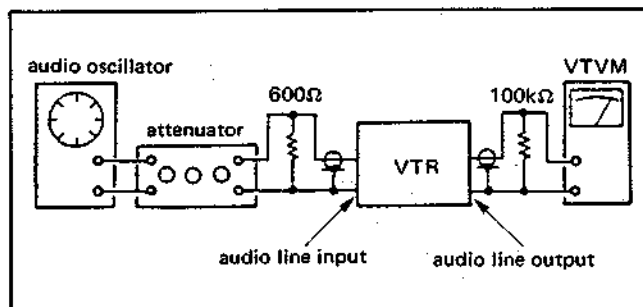

Fig. 3-25 Connections
The connections of the equipment to the input/output terminals are shown in Fig. 3-25.
- (1) Terminate the audio line output terminal with a 100kΩ resistor and connect a VTVM.
- (2) Play back the 5kHz signal segment of the alignment tape (KR5-1M).
- (3) Adjust the azimuth adjustment screw on the audio head for a maximum VTVM reading. (See Fig. 3-25)